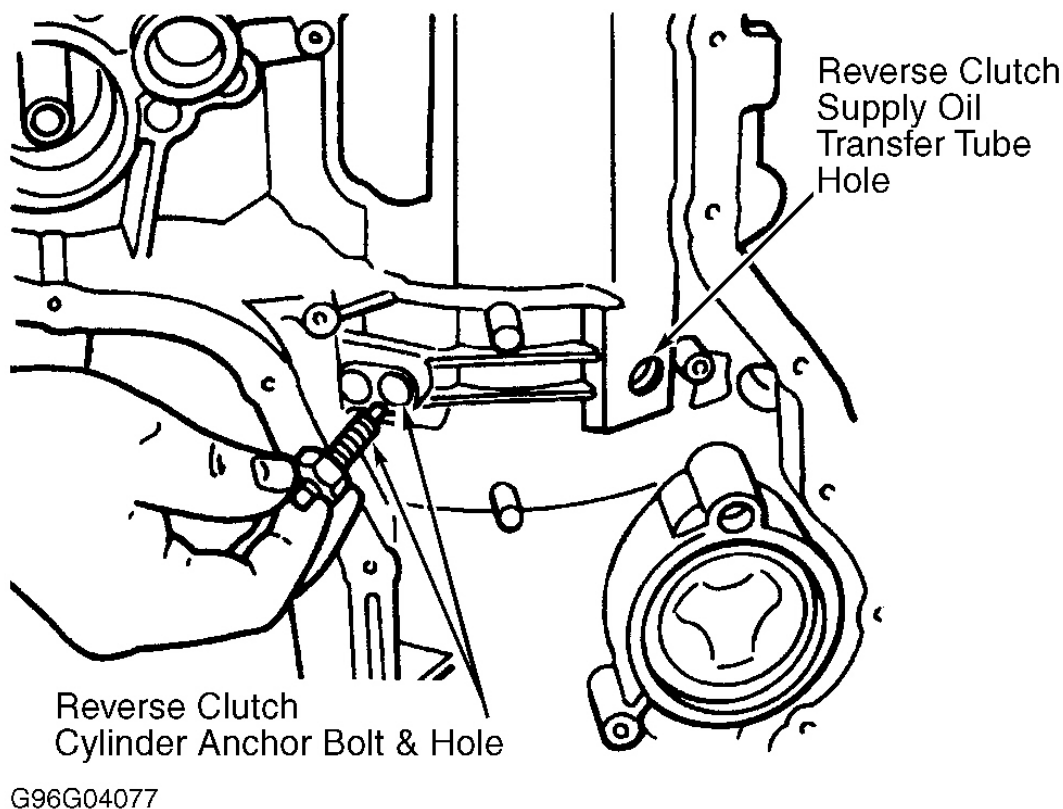

Fig. 39: Reverse Clutch Anchor Bolt & Oil Transfer Tube Holes
15. Ensure supply oil transfer tube hole is aligned. See **Fig. 39**. Remove installation handle and collet from front planetary/reverse clutch assembly. Install reverse clutch cylinder anchor bolt and lock nut finger tight. See **Fig. 39**.